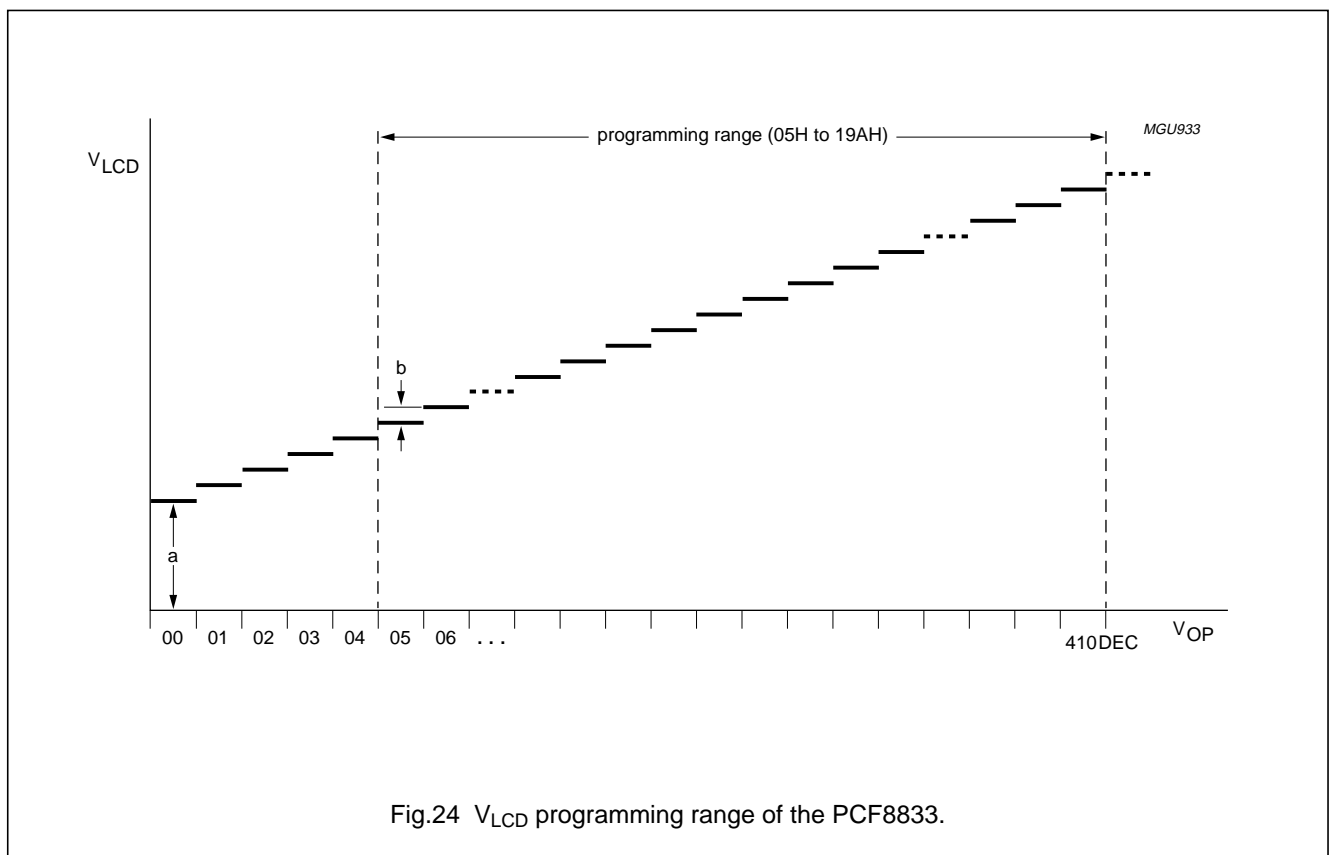

Fig.24 V_{LCD} programming range of the PCF8833.
The generated V_{LCD} can be calculated with equation (1). Figure 24 is the graphical equivalent to equation (1).
The VOP[8:0] value must be in the V_{LCD} programming range as shown in Fig.24. Evaluating equation (1), values outside of the programming range indicated in Fig.24 may result. Calculated values below 0 will be mapped to V_{OP} = 0; resulting V_{OP} values higher than 445 will be mapped to V_{OP} = 445. An overview of the complete programming range of V_{LCD} can be found in Section 15.1.